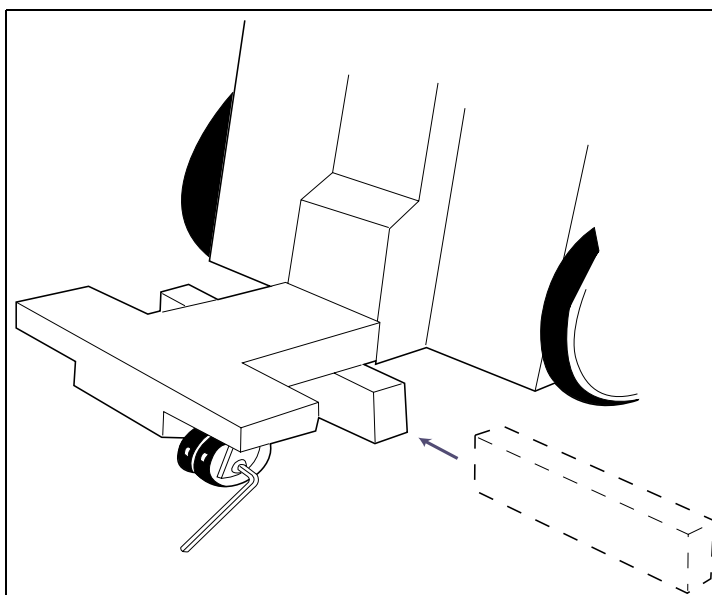

Fig. 4: Raise the front of the system
- Elevate the front transport wheels with a piece of wood (Fig. 4 / p. 39).